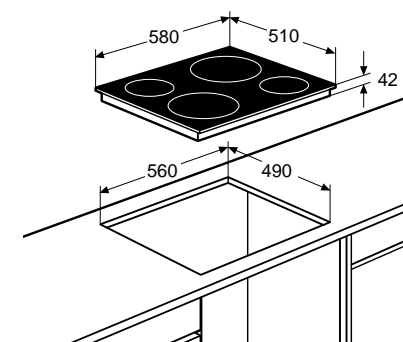

fig. 5
- Mark out the cut out (560 x 490 mm) on the worktop (see fig. 5).